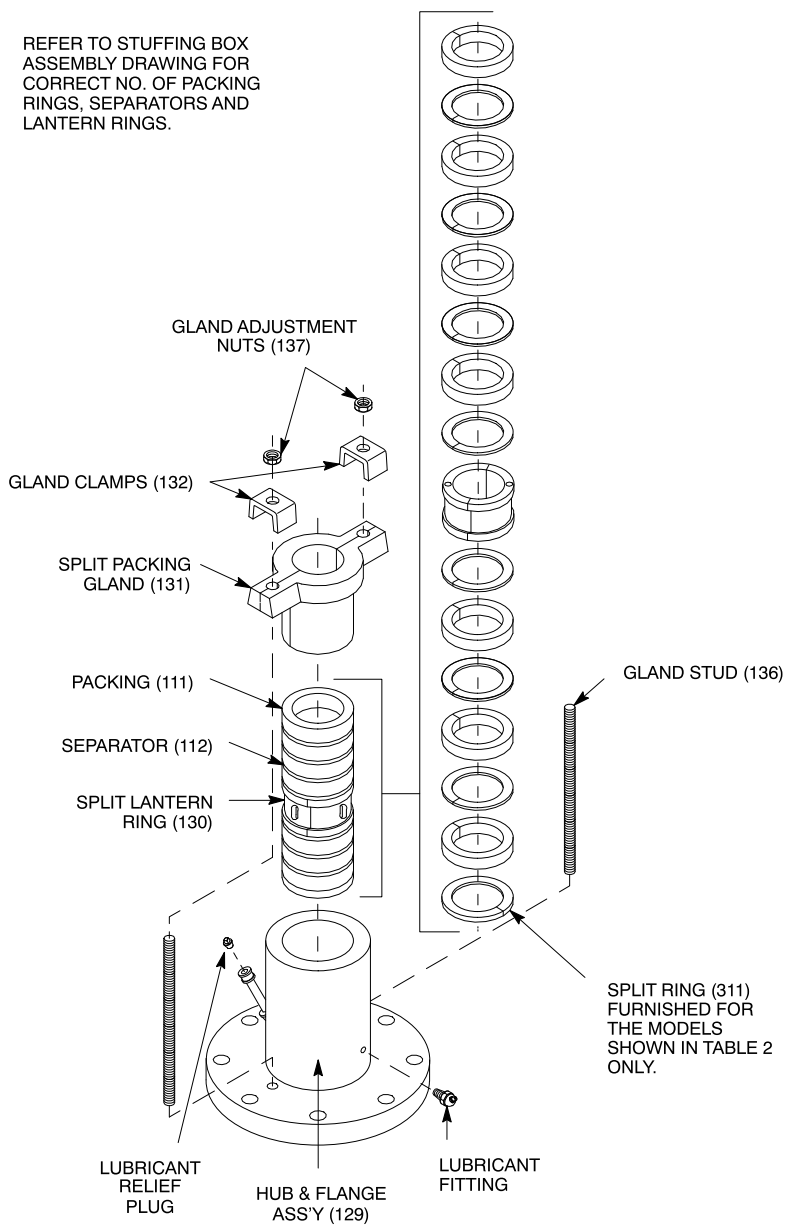

FIGURE 1 – STANDARD STUFFING BOX CONSTRUCTION
- 2.3 Standard Stuffing Box (see Figure 1)
- The packing is not lubricated because of the danger of using a lubricant that could contaminate the product. Thoroughly coat all surfaces of the packing rings (111), separators (112) and lantern ring (130) with a product compatible lubricant. Teflon lantern rings are standard for applications up to 300° F. Over 300° F, lantern ring is metal.